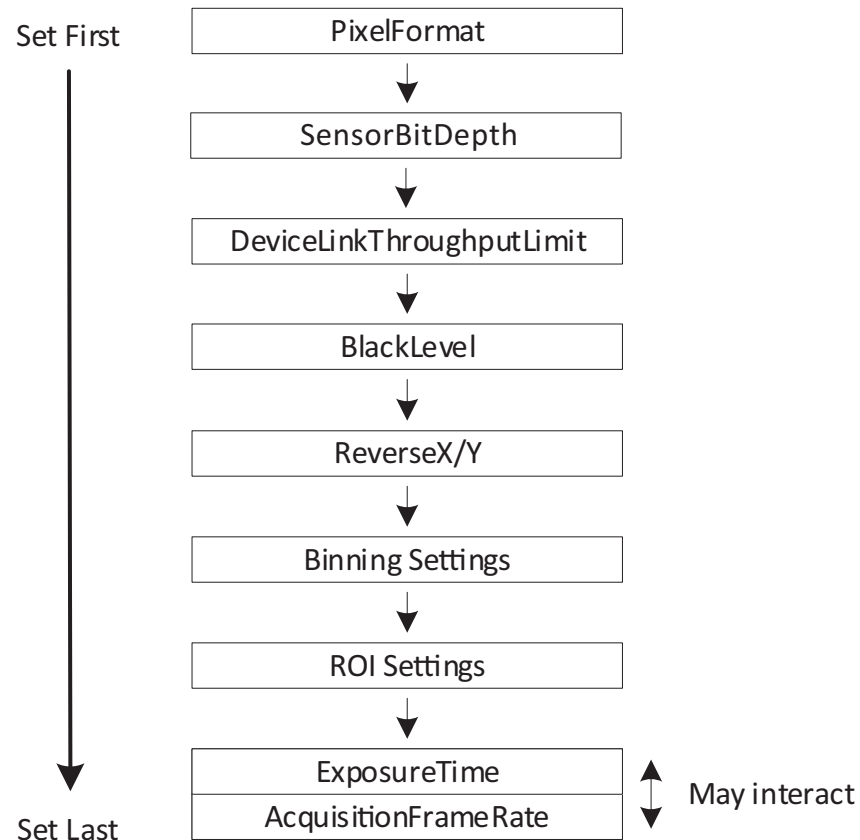

Figure 65: Interdependencies between features
The conversion between time and clock cycles affects control values. Features for pixel format, bandwidth, ROI, exposure time, and triggering are related to each other. Changing values for one feature can change values for another feature. For example, frame rates can be reduced when `PixelFormat` is changed subsequently. Figure 65 shows the interdependencies.
- To avoid readjustments, apply settings in the order shown in Figure 65.